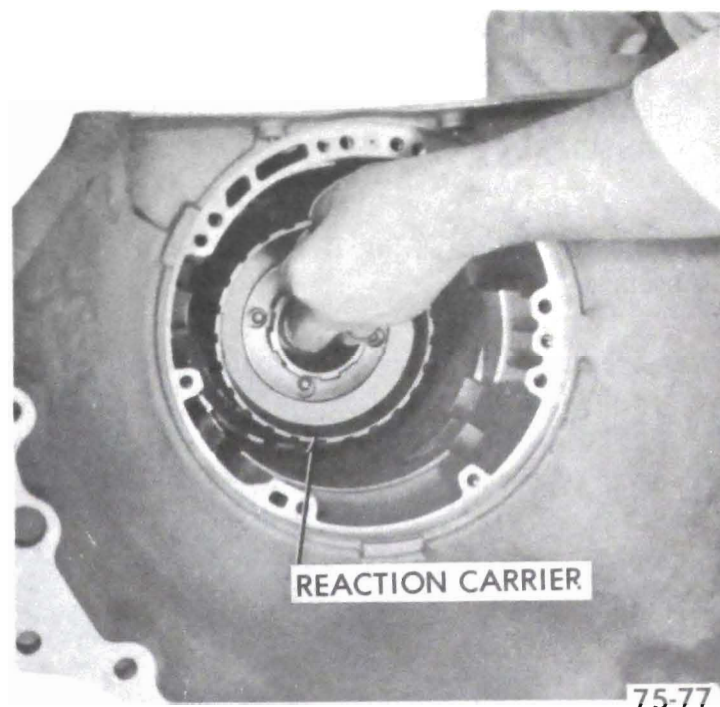

Figure 75-109
1. Remove reaction carrier assembly from output ring gear and shaft assembly. See Figure 75-109.